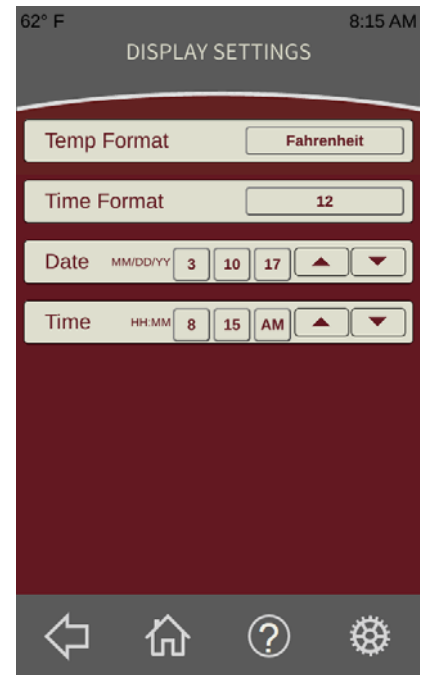

Fig. 58
- Temp Format (Fig. 58) changes between Fahrenheit and Celsius.
- Time Format (Fig. 58) changes between 12 and 24 hour clocks.
- Date (Fig. 58) allows the current date to be entered.
- Time (Fig. 58) allows the current time to be entered.